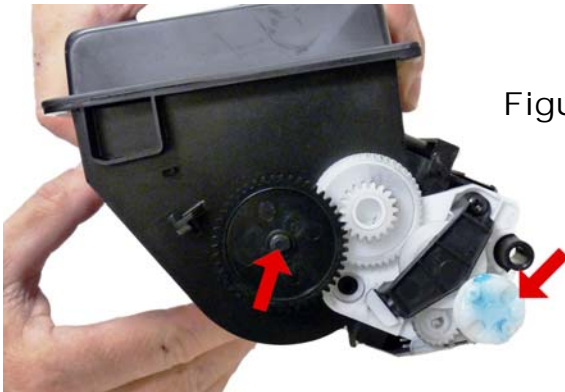

Figure 27
25) On the toner hopper, remove the large black gear and small white gear from the developer roller shaft. See **Figure 27**